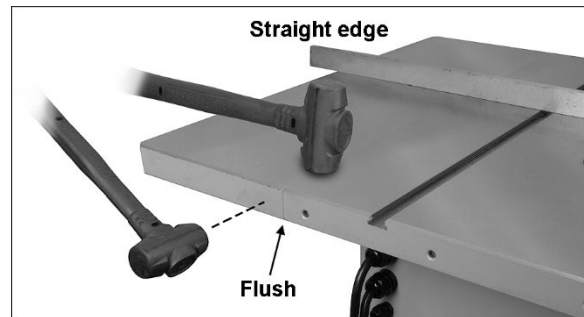

Figure 6-4: leveling extension wings, method 1
2. Attach an extension wing (B) to saw table. (Extension wings are identical). Use three screws, lock washers and flat washers (HP-1/2/3). Lightly snug screws with 17mm wrench or socket. *Do not fully tighten yet.*
4. The front edge of extension wings must be flush with front edge of saw table. If needed, tap front edge of wing with a rubber mallet to make flush. See Figure 6-4.
**Method 1** (Figure 6-4):
3. Lay straight edge across saw table and extension wing, extending it out past edge of wing as shown in Figure 6-4.